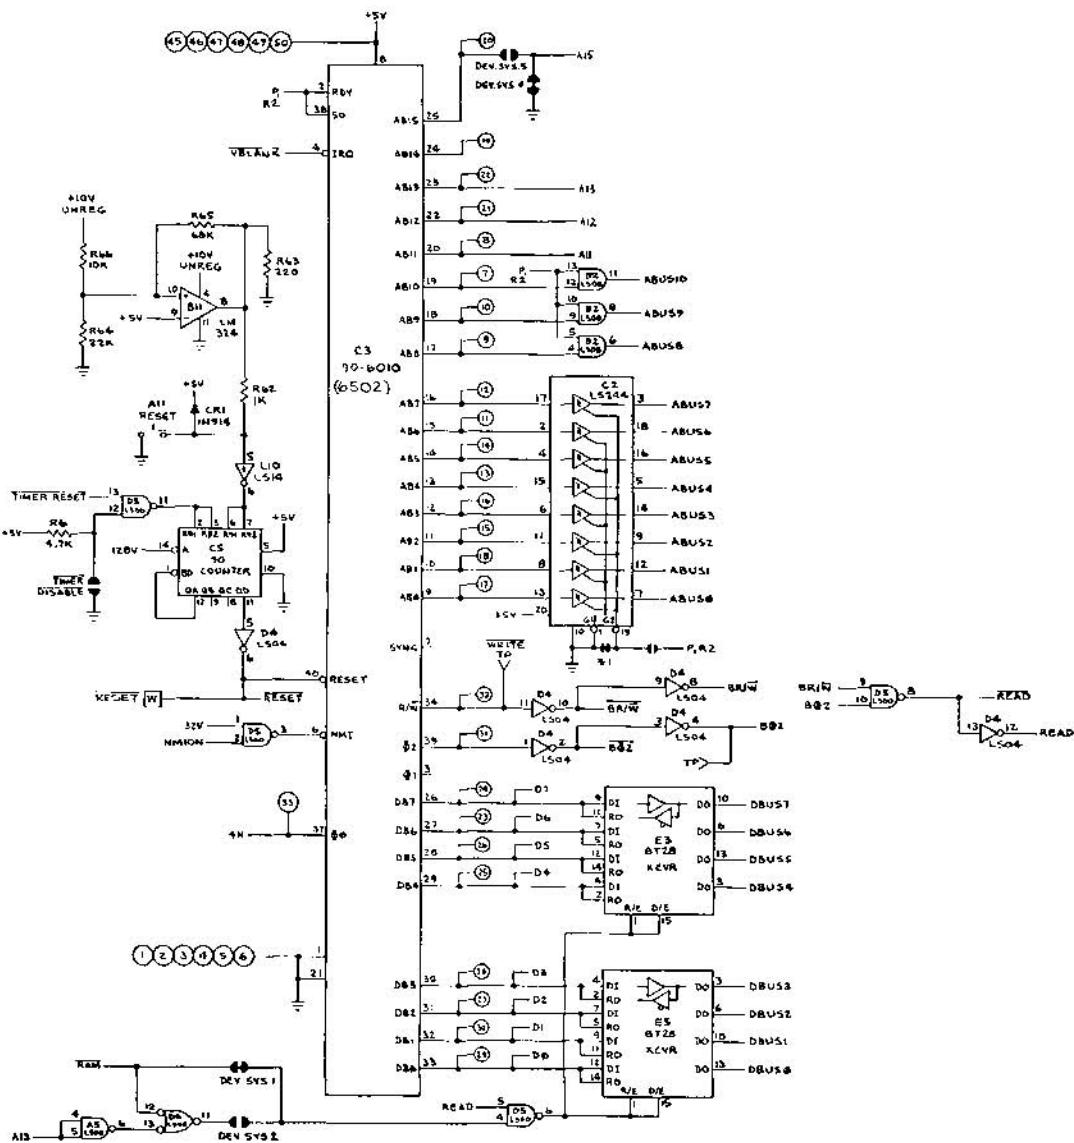

Figure 4-5 MPU Circuit Schematic Diagram
1. MPU at location C3, address buffers at B2 and C2, and data buffers at E3 and E5 (See Figure 4-5)
(See Figure 4-5)